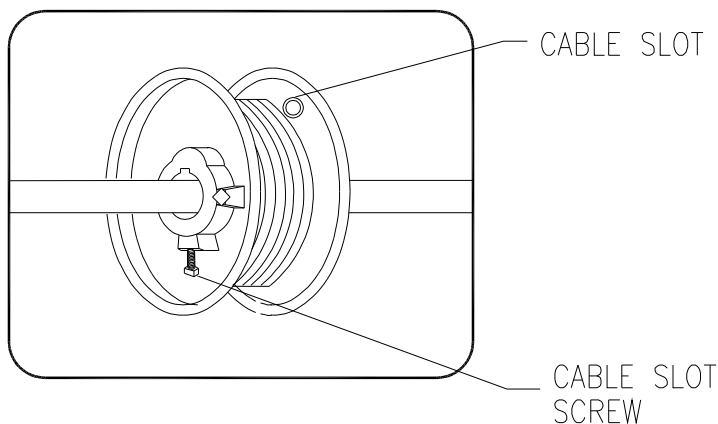

Figure 13
- 4.3.2. Install the springs as described before, but at the back of the horizontal tracks, facing the opening. Slide the cable around the pulley located at the exterior side of each horizontal track and then into the drum (figure 13)
- Position the drums at 1/2" of the tracks and tighten the screws. (figure 13)